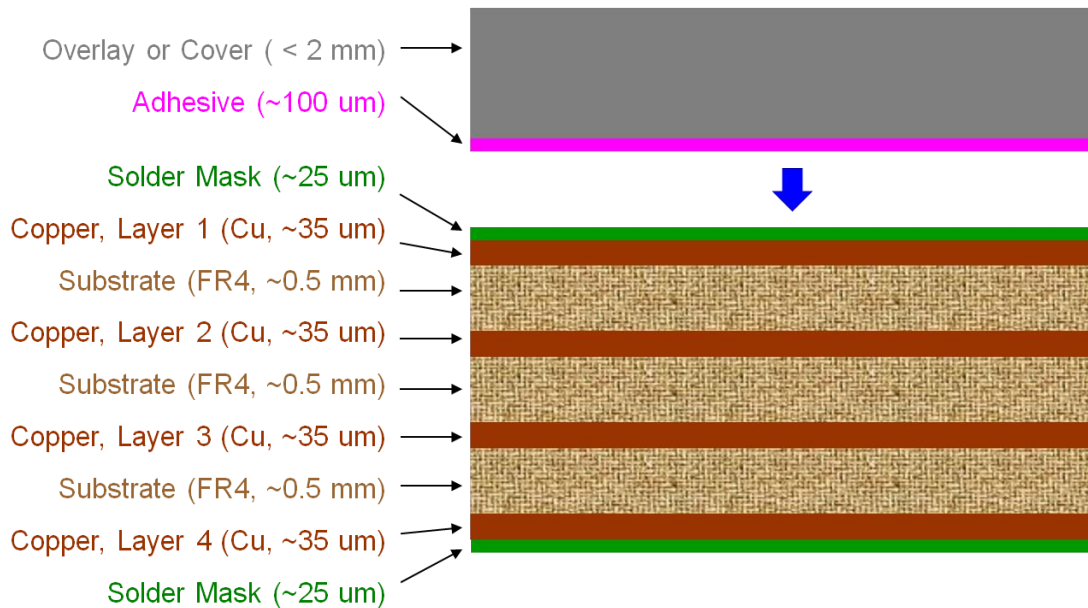

Figure 1 : Sensor Layers – Cross Section
- Figure 1 : Sensor Layers – Cross Section .....4*